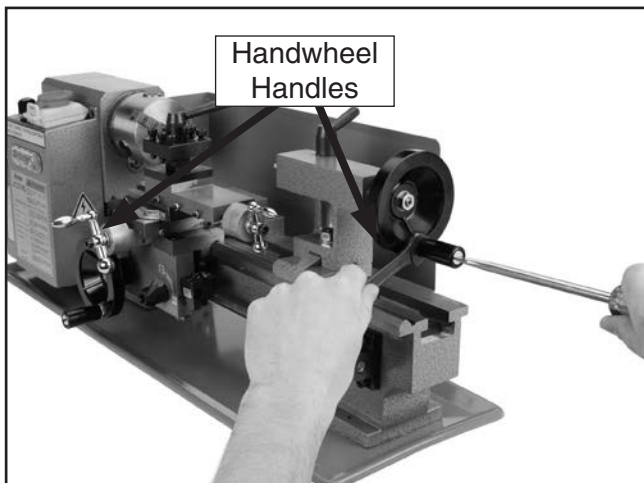

Figure 9. Installing the handwheel handles.
1. Using a screwdriver and 14mm open end wrench, thread the handwheel handles into the longitudinal and cross feed handwheels (see **Figure 9**).